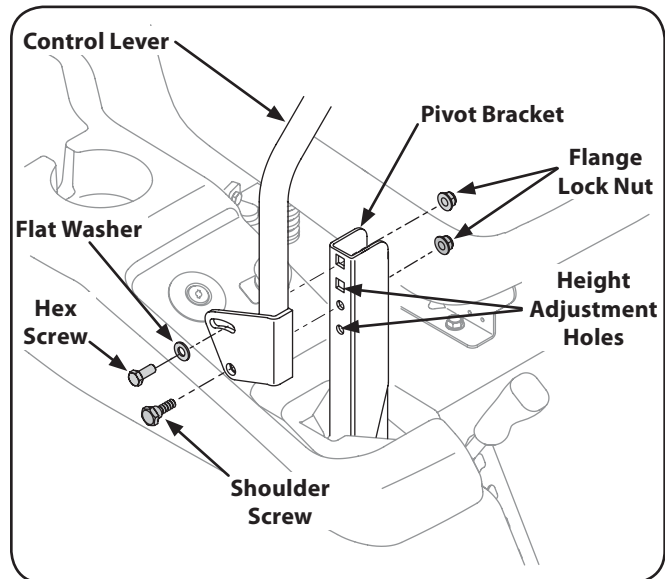

Figure 6-5
2. While supporting the control lever to keep it from falling, remove the hex insert flange lock nut and shoulder screw from the bottom of the control lever and pivot bracket. Refer to Fig. 6-5.
1. If not already loose, loosen the flange lock nut and rotate the control lever either forward or rearward to the desired position. See Fig. 6-5.